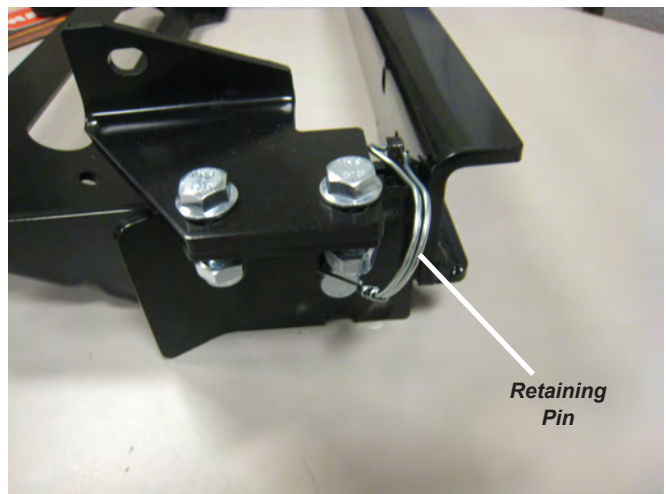

Figure 8
5. With both alignment pucks seated into the plow mount the retaining pins can be inserted. Once inserted the retaining clips on the pins can be clipped onto locking tab on plow mount, refer to Figure 8. See Plow operator guide “Installing the Plow” for more information.